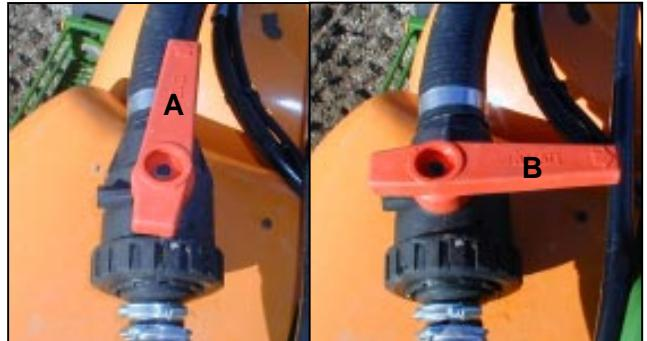

Fig. 10.9
- For filling the spray agent tank swivel the three way tap (Fig. 10.9) into flowing direction (Fig. 10.9/A).
- For filling the flushing water tank swivel the three way tap (Fig. 10.11/2) cross ways in the flowing direction (Fig. 10.9/B).